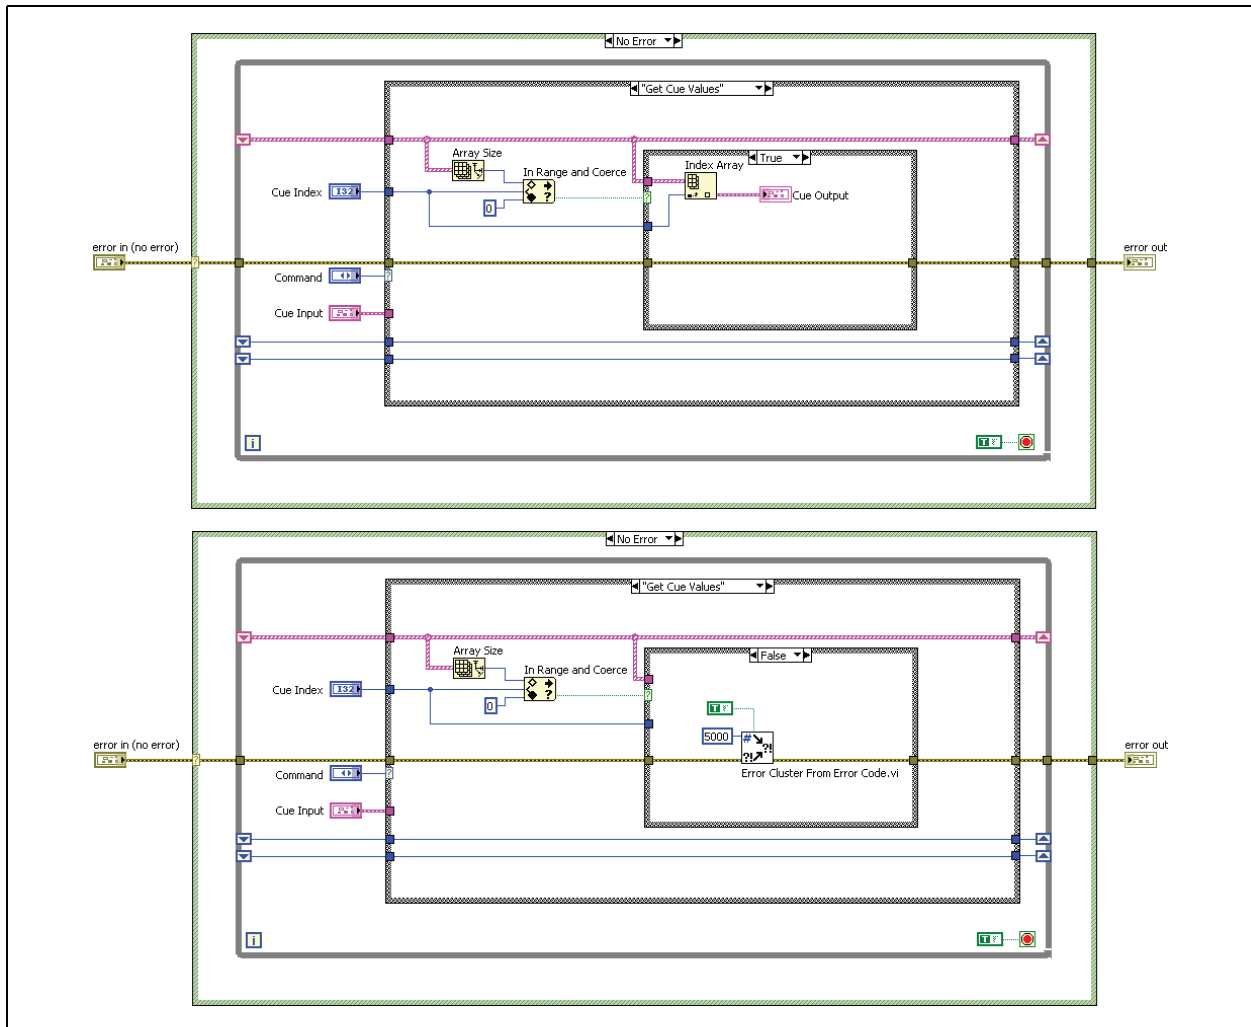

Figure 4-17. Modified Get Cue Values Case
2. Modify the Get Cue Values case to determine if the desired cue exists before attempting to obtain its value. Figure 4-17 shows the True and False cases for the Get Cue Values case. To build the Get Cue Values case, use the following items:
- ☐ In Range And Coerce function—When you wire the In Range and Coerce limit inputs as shown in Figure 4-17, the **In Range?** output indicates whether the specified **Cue Index** is valid for the existing cue array. If it is not within range, error 5000 generates.